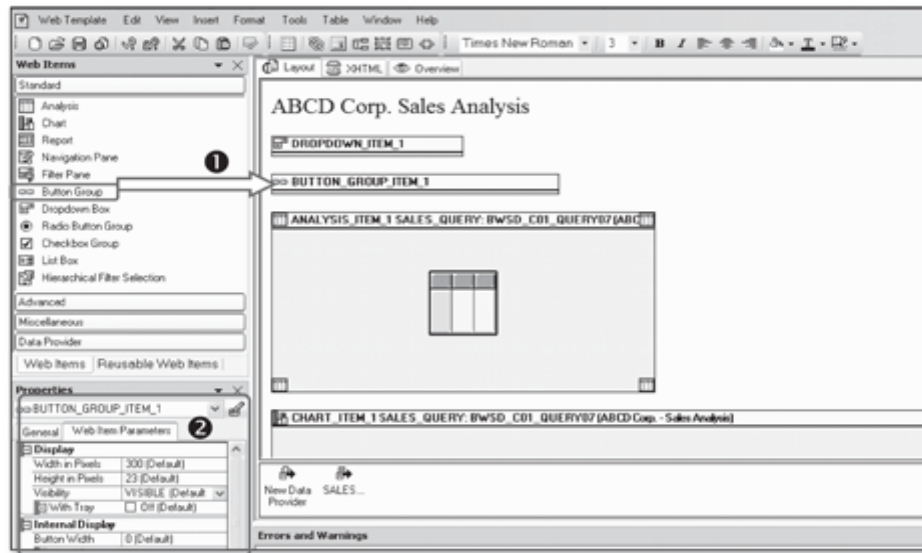

Figure 11.11 Add Button Web Item
To add a button in the web template, drag the Button Group web item from the Web Items area into the layout as shown in ❶ Figure 11.11. Then go to the Web Item Parameters tab for the button group to configure the button group (❷).